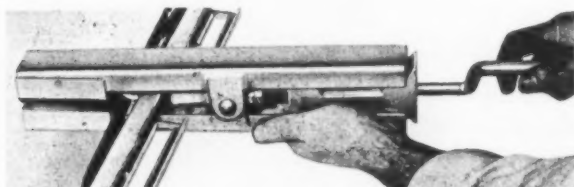

Fig. 3—Glass channel replacement.
4.—If the glass or channel is to be replaced, use a tool similar to the one shown in Fig. 3. When installing the channel, use new glass tape between the channel and the glass.